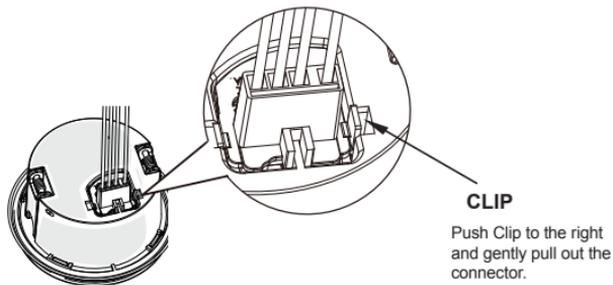

FIGURE 6
- To remove the AC connector from the smoke alarm, gently push the right clip in the direction of the arrow to release the connector. Gently pull out the connector. See Figure 6.